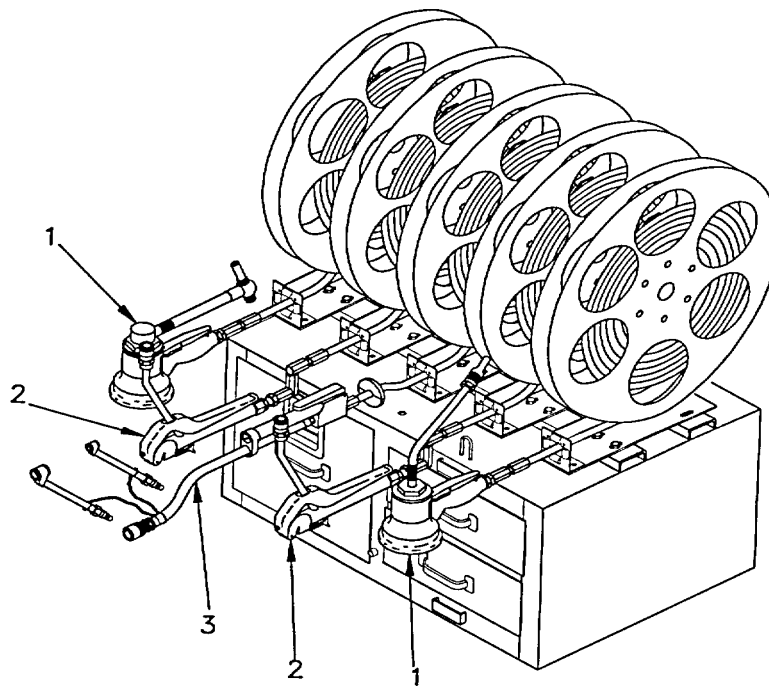

Figure 2-11. Metering Valves
k. Metering Valves. (Refer to Figure 2-11).
- (1) Metering Valves (1). Control lubricant flow.
- (2) Grease Control Valves (2). Control flow of grease.
- (3) Tire Inflator Gage (3). Inflates and measures air pressure.